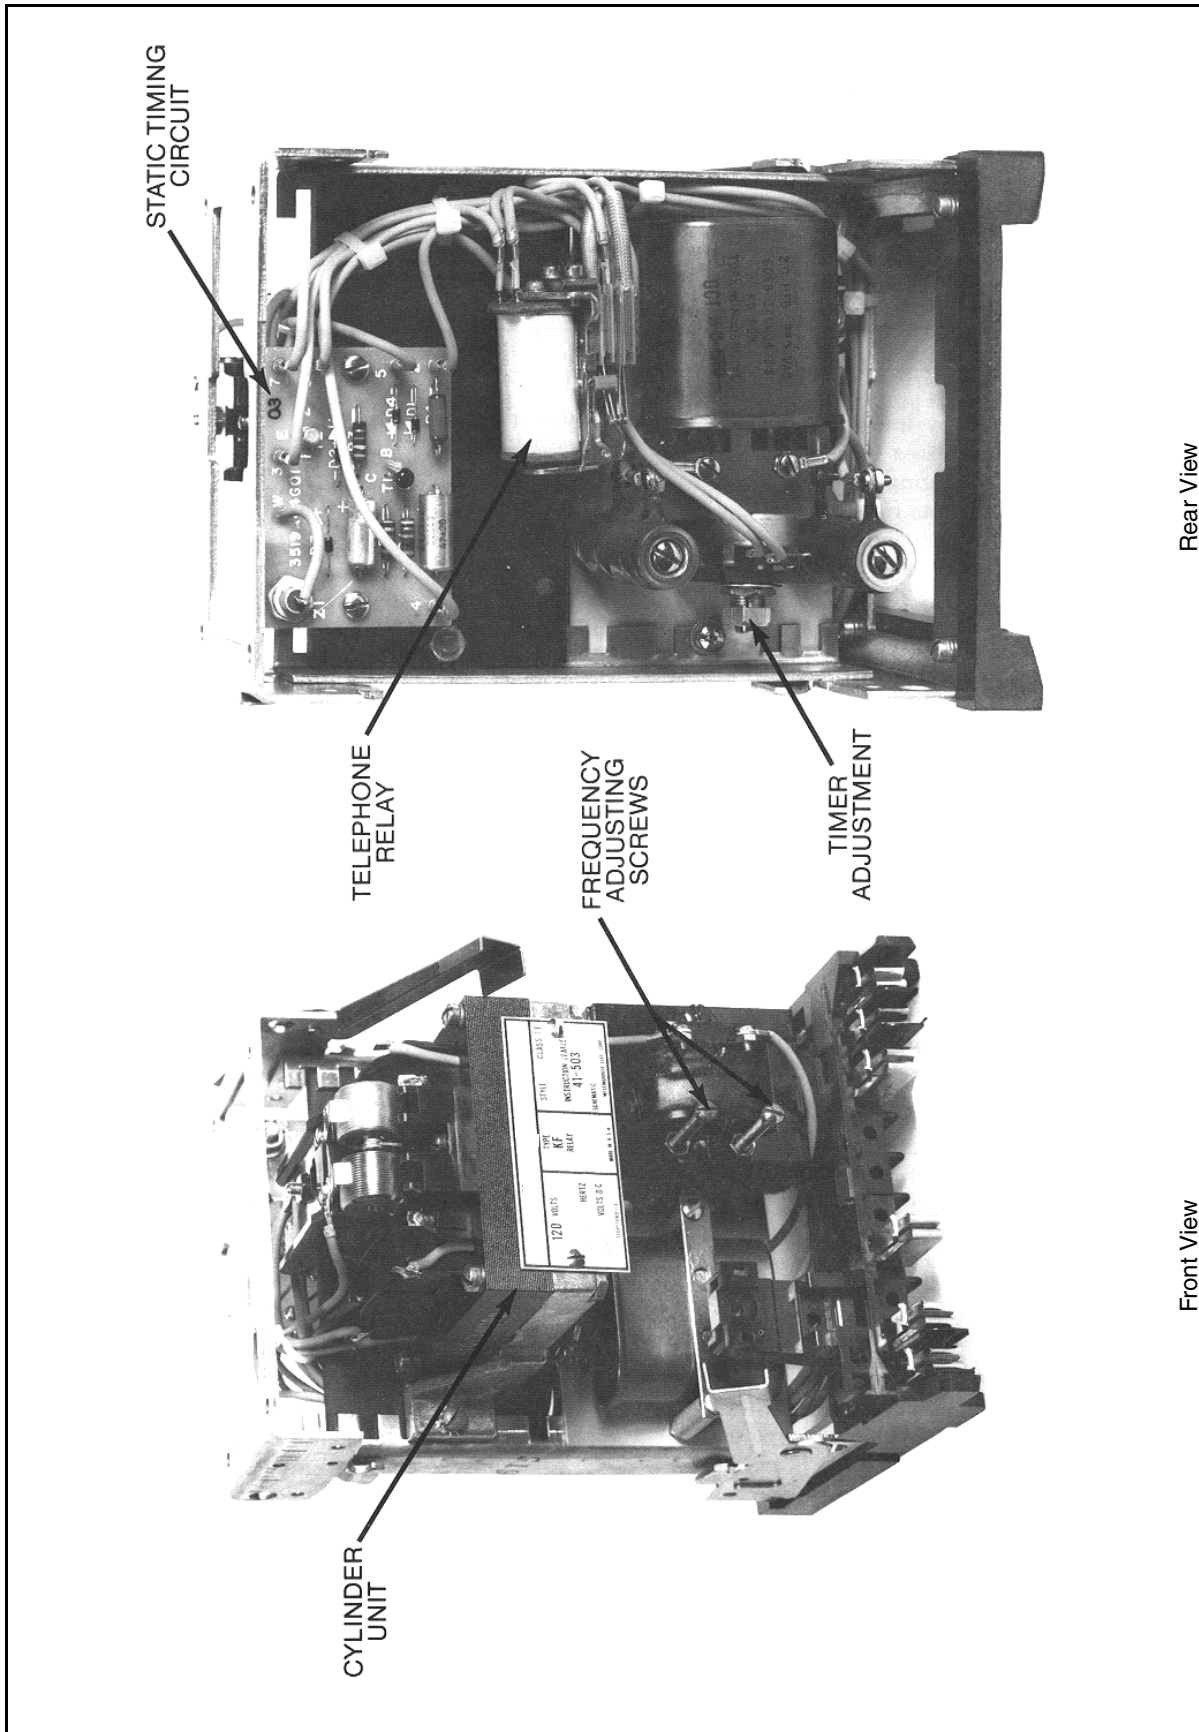

Figure 1: Type KF Relay for 60 Hertz without Case. (Front & Rear View.)
The relay consists of an induction cylinder unit, frequency sensitive components, indicating contactor switch, and auxiliary time delay unit (T). The principal parts of the relay can be seen in Figure 1 (page 2).
Block cylinder unit contacts closed. Apply 50 volts ac to terminals 8 and 9 of the KF relay. The T unit should operate. Reduce voltage to approximately 15 volts ac and the T unit should drop out. At rated voltage the time delay obtained should be 6 cycles. The timer can be set to provide up to 30 cycles delay by adjusting the rheostat located on the rear sub base (See Figure 1). Time vs. voltage curves are shown in Figure 8 (page 10).
Energize terminals 10 and 4 with rated dc voltage. Place switch across KF relay contacts. Closing the switch will now energize the timing circuit. The time delay obtained from the telephone relay should be 6 cycles. The timer can be set to provide up to 30 cycles delay by adjusting the rheostat located on the rear sub base (See Figure 1).
Set the source frequency to 59.5 hertz and adjust the frequency adjusting screws (See Figure 1) until the cylinder unit contact closes to the left. Reduce voltage to 60 volts and lower the fre-
Block the KF relay contacts closed. Energize terminals 8 and 9 of the relay with rated voltage and frequency. Time the closing of the telephone relay contacts. This time can be set over the range of 6 to 30 cycles utilizing the rheostat located on the rear sub base. (See Figure 1, page 2.)
Energize terminals 10 and 4 with rated dc voltage. Place switch across KF relay contacts. Close switch and time the closing of the telephone relay contacts. Adjust rheostat on rear sub base for desired time delay. This time can be set over the range of 6 to 30 cycles utilizing the rheostat located on the rear sub base. (See Figure 1, page 2.)